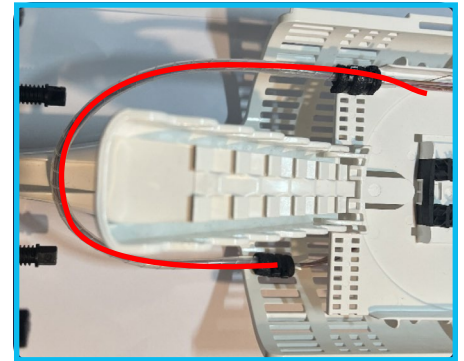

Figure 11.6
6. Route the spiral wrapped fibre to the first tray. Pass the fibres behind the splice tray spine [\[figure 11.6\]](#).